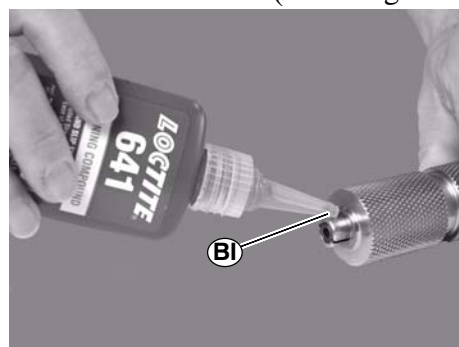

Figure 42
2. Apply a small amount of Loctite 641, or equivalent, to the outside of stub shaft (BI of Figure 42).